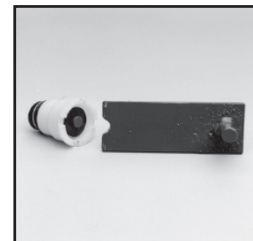

Figure 18
- 6) The valve assembly (H) is removed using a locally made tool. See tool drawing for measurements. Remove valve plate retaining pin and insert tool into slots. See Figure 18. Use a screwdriver to rotate tool counter-clockwise.
- 7) Once the valve assembly is removed, the valve plates and O-rings can be replaced. Figure 18.